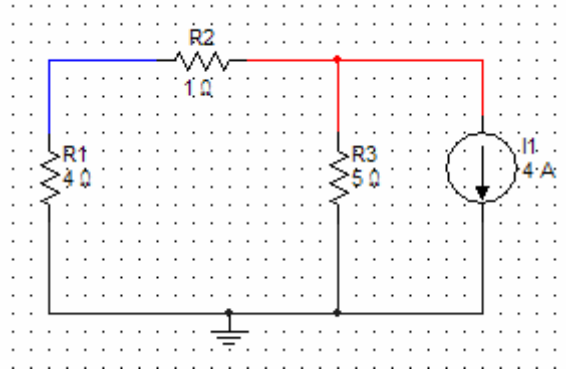

Figure 27. All we need to do is setup the dependent source
1. Start MultiSim and place the non-dependent source components. The current source can be found in the Signal Sources family . Place a ground node at the bottom of the circuit and an Agilent Multimeter across the 1Ω resistor. Figure 27 shows the result.
we have 5 i_β amps of current going from bottom to top in the leftmost branch, exactly as shown in figure 27.